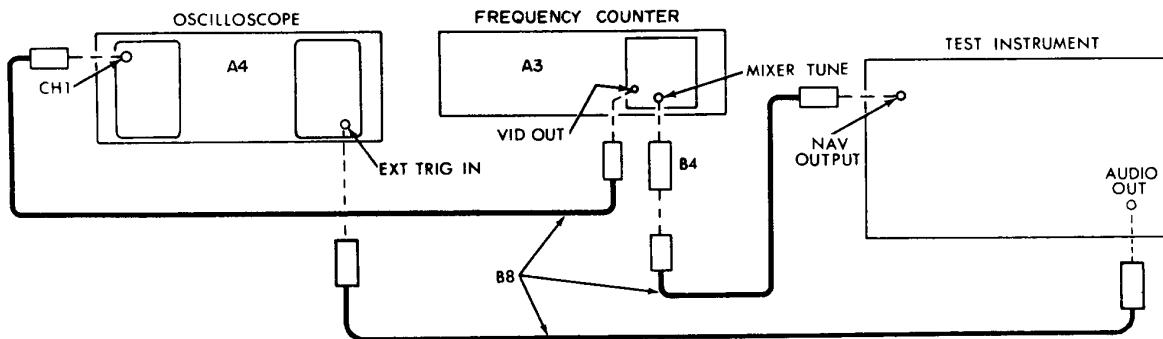
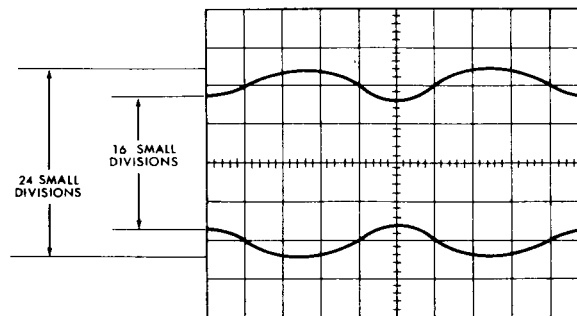

Figure 4. Percent modulation - equipment setup.
Figure 6. Test instrument - 20-percent modulation waveform.
(1) Connect equipment as shown in figure 4.
(8) Loosen setscrews on LOC-GS knob and turn knob until white line on knob coincides with pointer on panel.
(9) Turn AUDIO SELECTOR switch of TI to 150 ~
(10) Observe that true rms voltmeter indication is same as obtained in (7) above. If not, perform **b** below.
(11) Connect equipment as shown in figure 4.
(12) Turn AUDIO SELECTOR to 90 ~.
(13) Adjust oscilloscope as necessary. If oscilloscope display is not as shown in figure 6, perform **b** below.